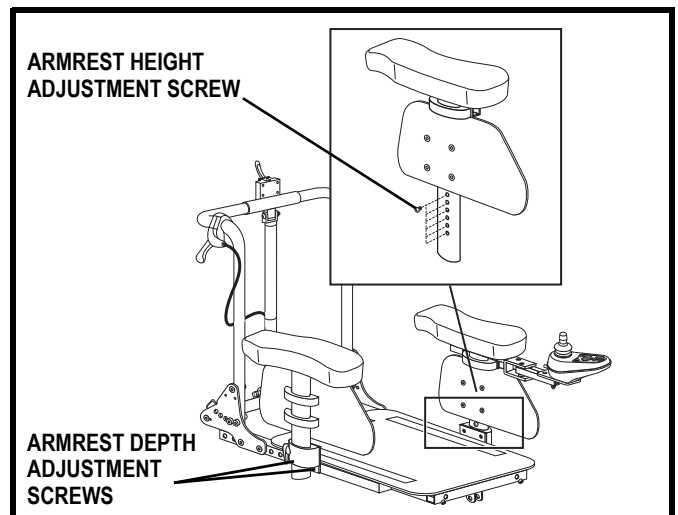

Figure 16. Armrest Height and Depth Adjustment
3. Reposition the height adjustment screw to the desired height. See **figure 16**.
1. Loosen the two depth adjustment screws under the armrest receiver. See **figure 16**.